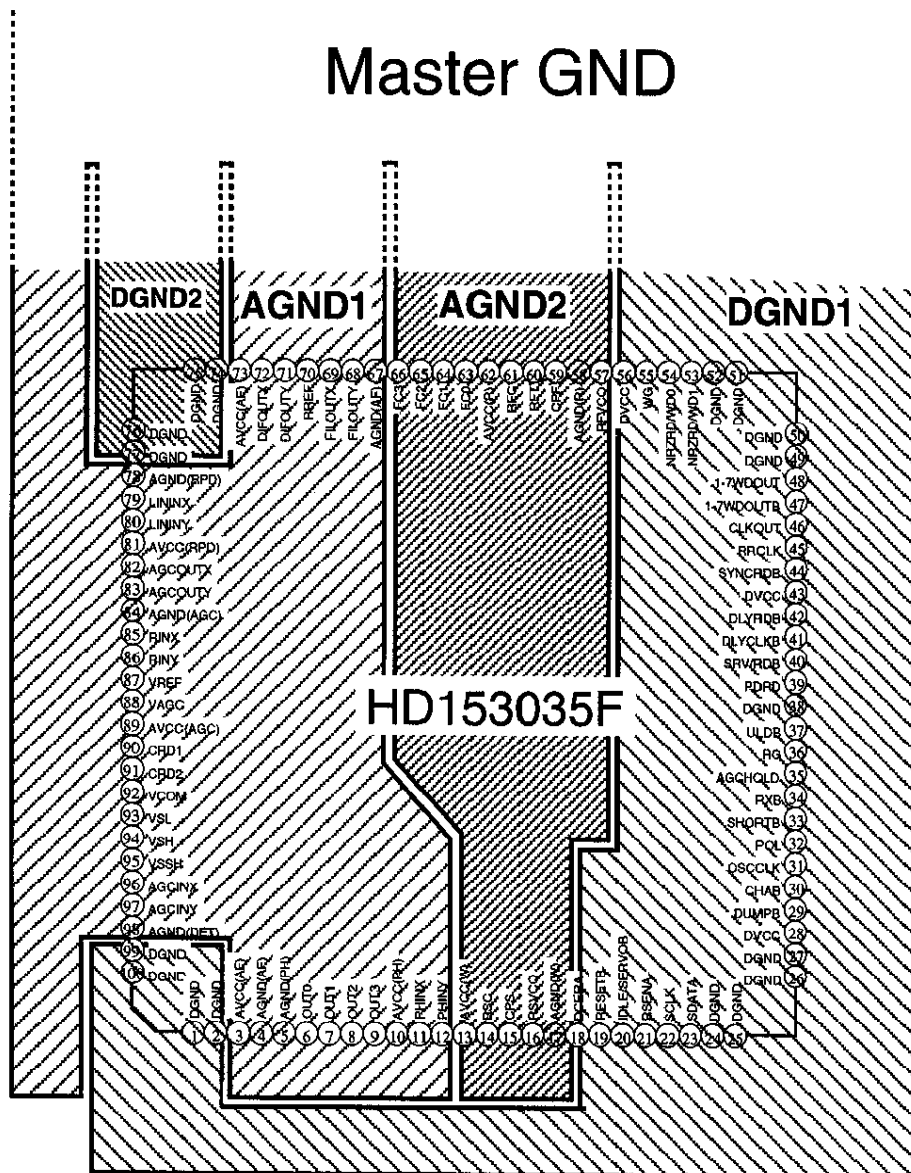

Fig. 35.1 Recommendation for Ground layout
- (1) Dedicate 1 layer for Ground plane.
- (2) Divide the ground plane into 4 segments as show fig. 35.1
- (3) System ground is connected Master GND.